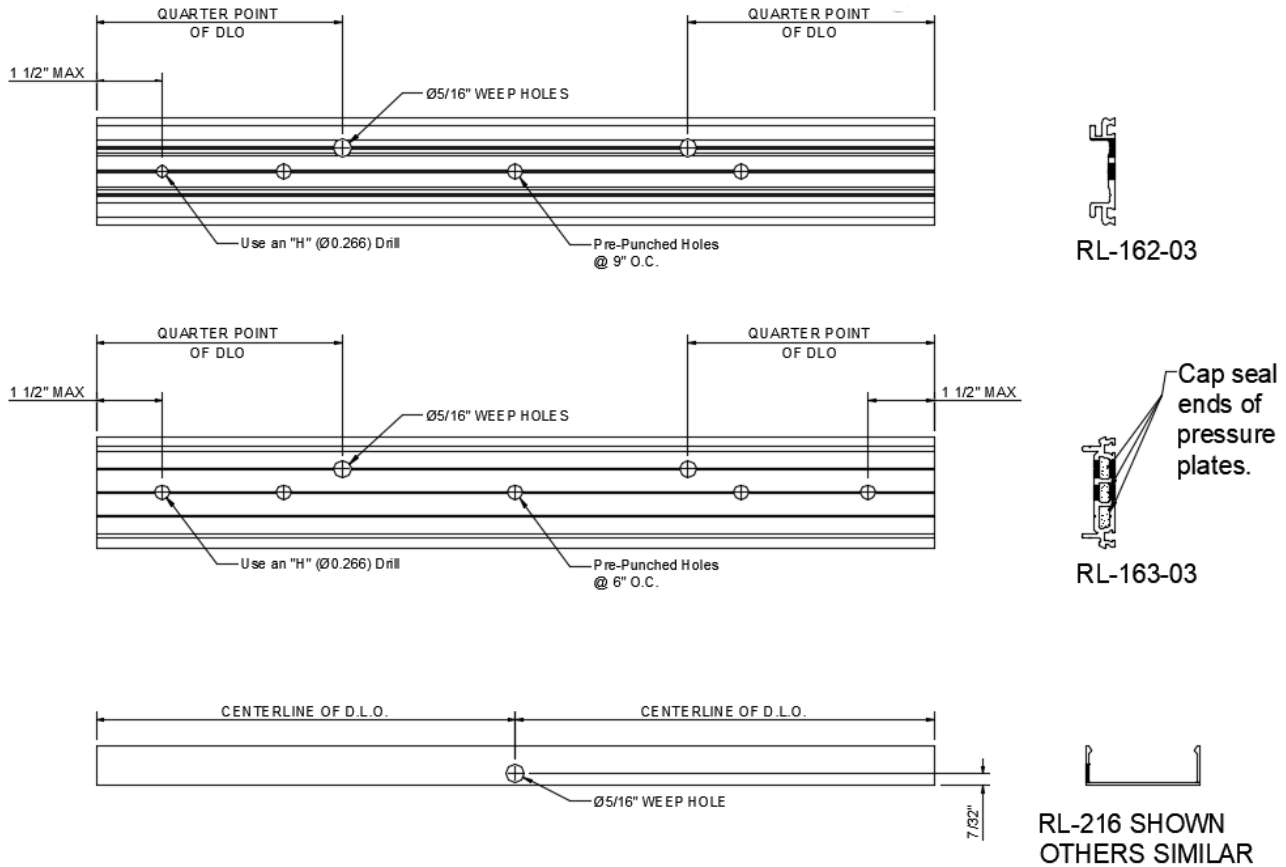

Figure 25: Pressure Plate and Cover Fabrication
- 8.2 Drill (1) 5/16" Ø weep hole at the bottom of each horizontal face cover at D.L.O. centerline. See *Figure 5* and *Figure 25*.
- 8.3 All pressure plates have factory-punched holes for fasteners at 9" on center on **RL-162-03** and 6" on center on **RL-163-03**. To ensure proper pressure on the glazing, 0.266" Ø holes may need to be drilled at the ends of each horizontal pressure plate as required. Locate at 1-1/2" maximum from the ends. See *Figure 25*.